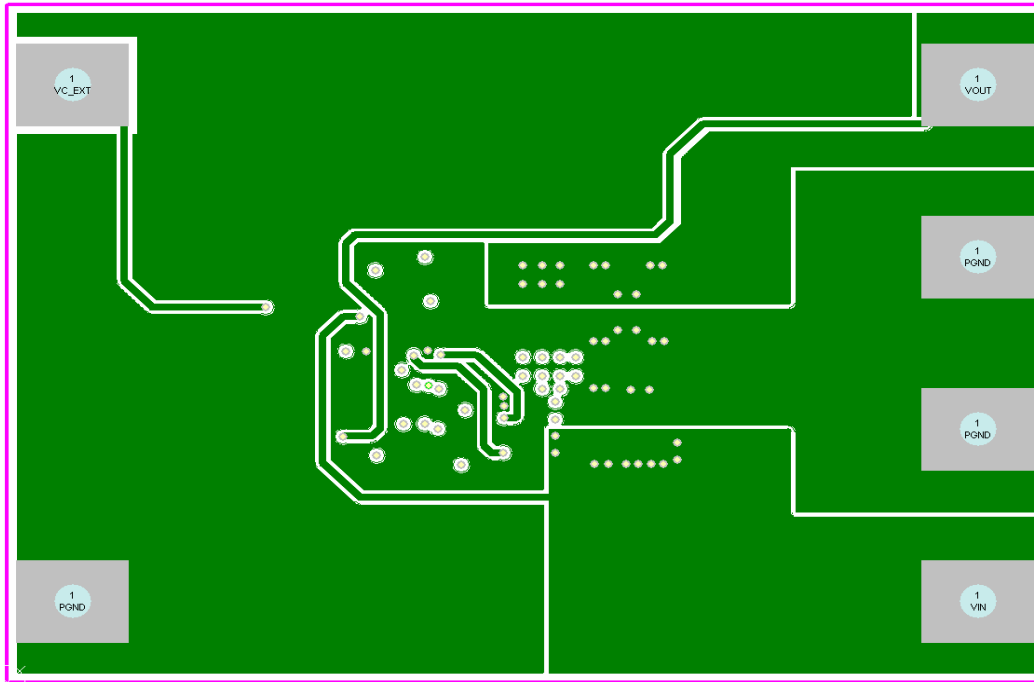

Figure 3c: IRPP3624-05A Reference Design mid-layer2 layout.
4. The feedback track from the output V_{OUT} to FB pin of the IC is routed as far away from noise generating traces as possible in mid-layer 2 as shown in figure 3c.